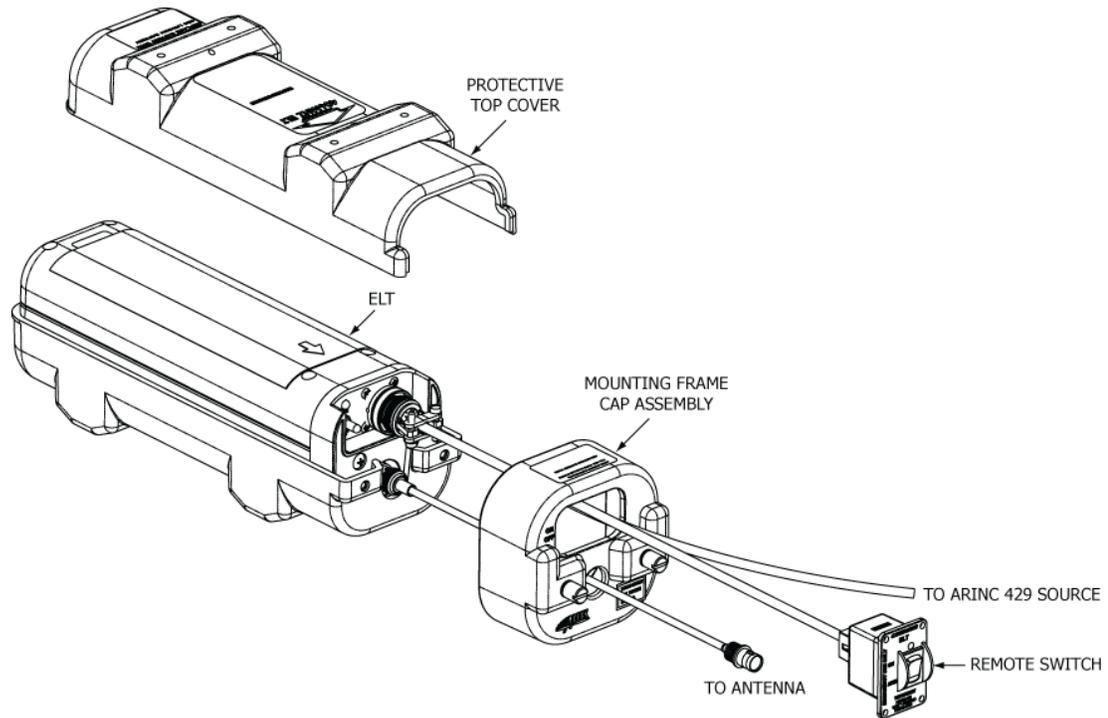

Figure 21 Remote Switch Harness Arrangement
- 1) See Figure 21 Remote Switch Harness Arrangement.